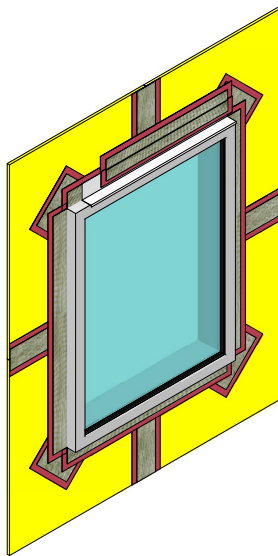

Figure 29
8. Install required accessories such as window head Flashing. Apply Flashing Primer over the accessory and onto areas which will receive WS Flash. Cut WS Flash to desired size. Remove release film immediately before application. Using a roller firmly press the WS Flash onto the surface keeping the membrane smooth. (See Figure 29)